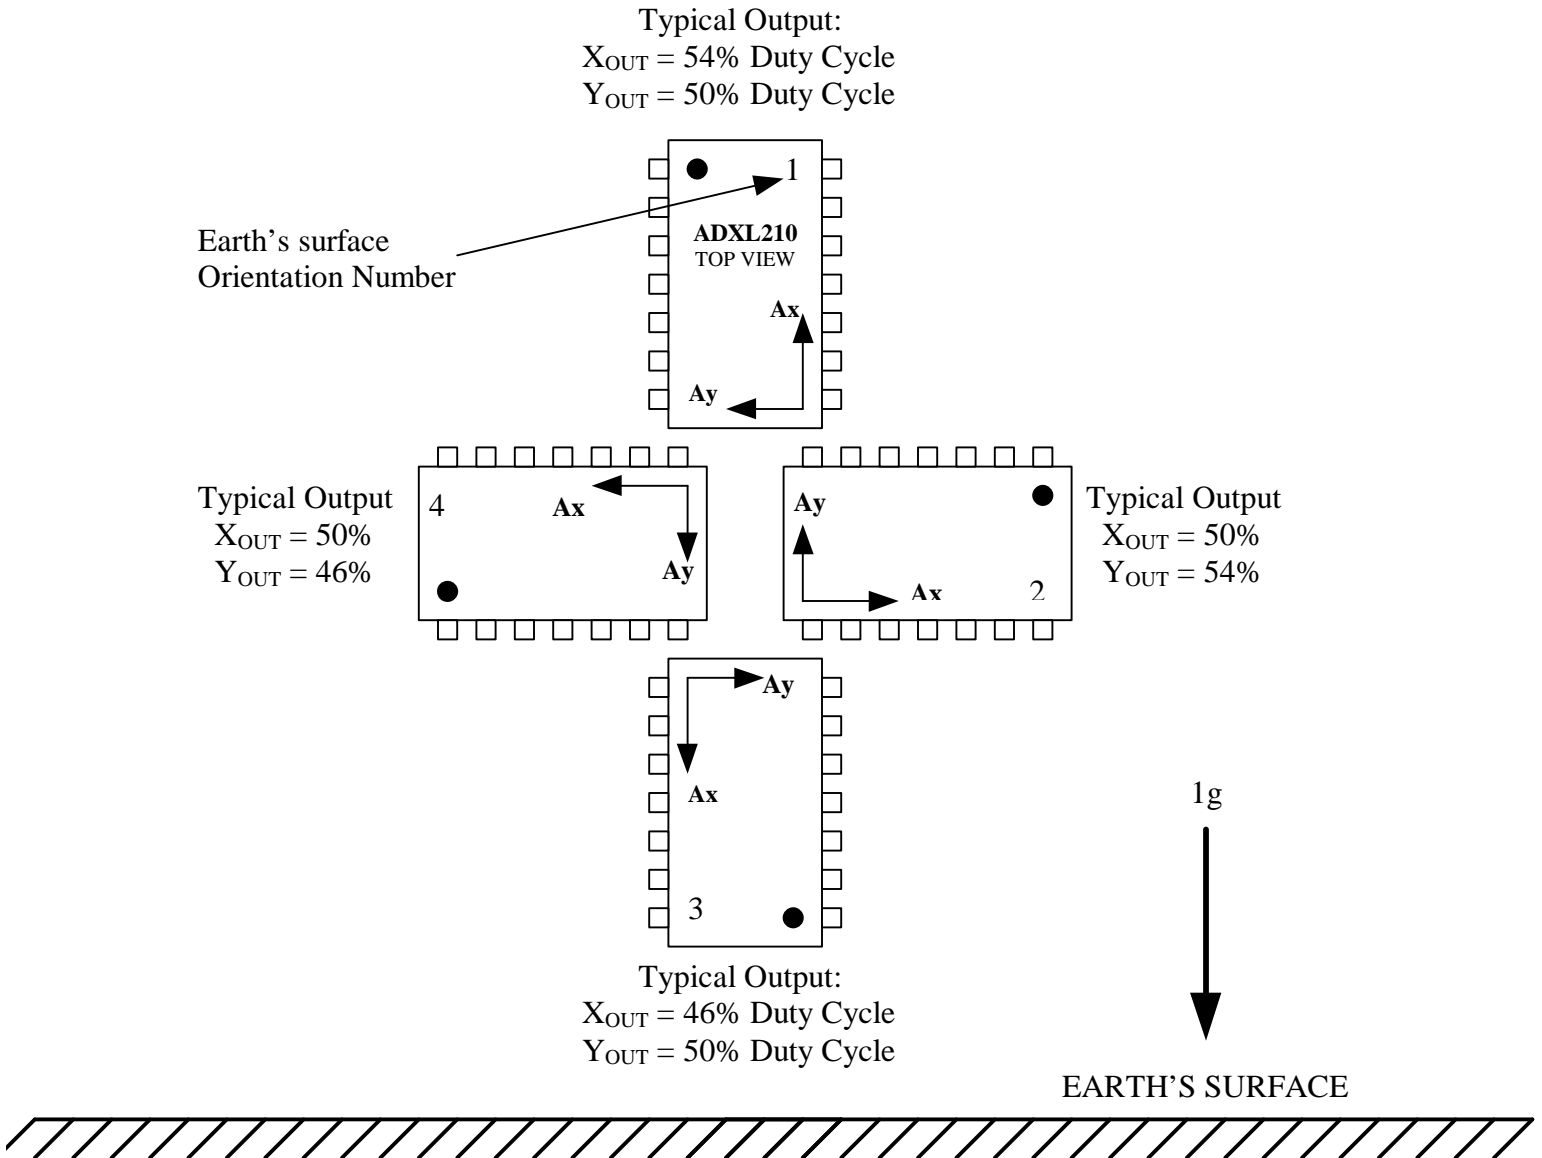

Figure 1 – Earth Orientation
2.3.1 Collect data for each of the four Earth orientations (**Figure 1**) of the ADXL210 accelerometer using the PIC 16C77 Microcontroller to calculate the pulse width. (See application note on Using The PIC 16C77 To Calculate Pulse Width).